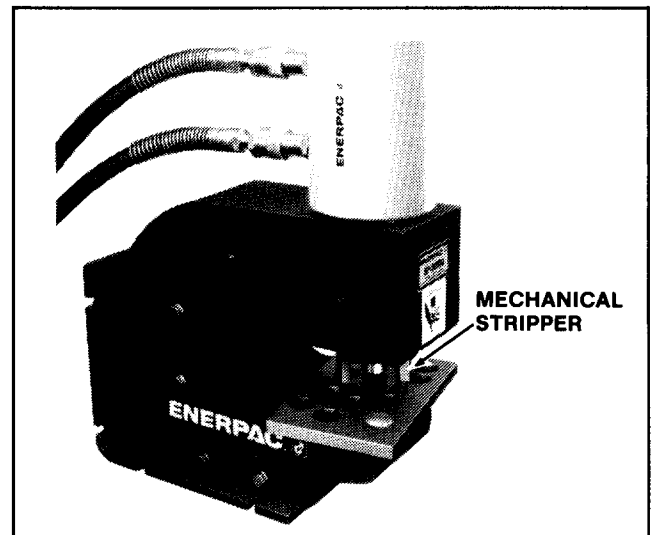

Figure 5
4. Turn mechanical stripper (figure 5) until it touches the material, then turn 1/2 turn counterclockwise.